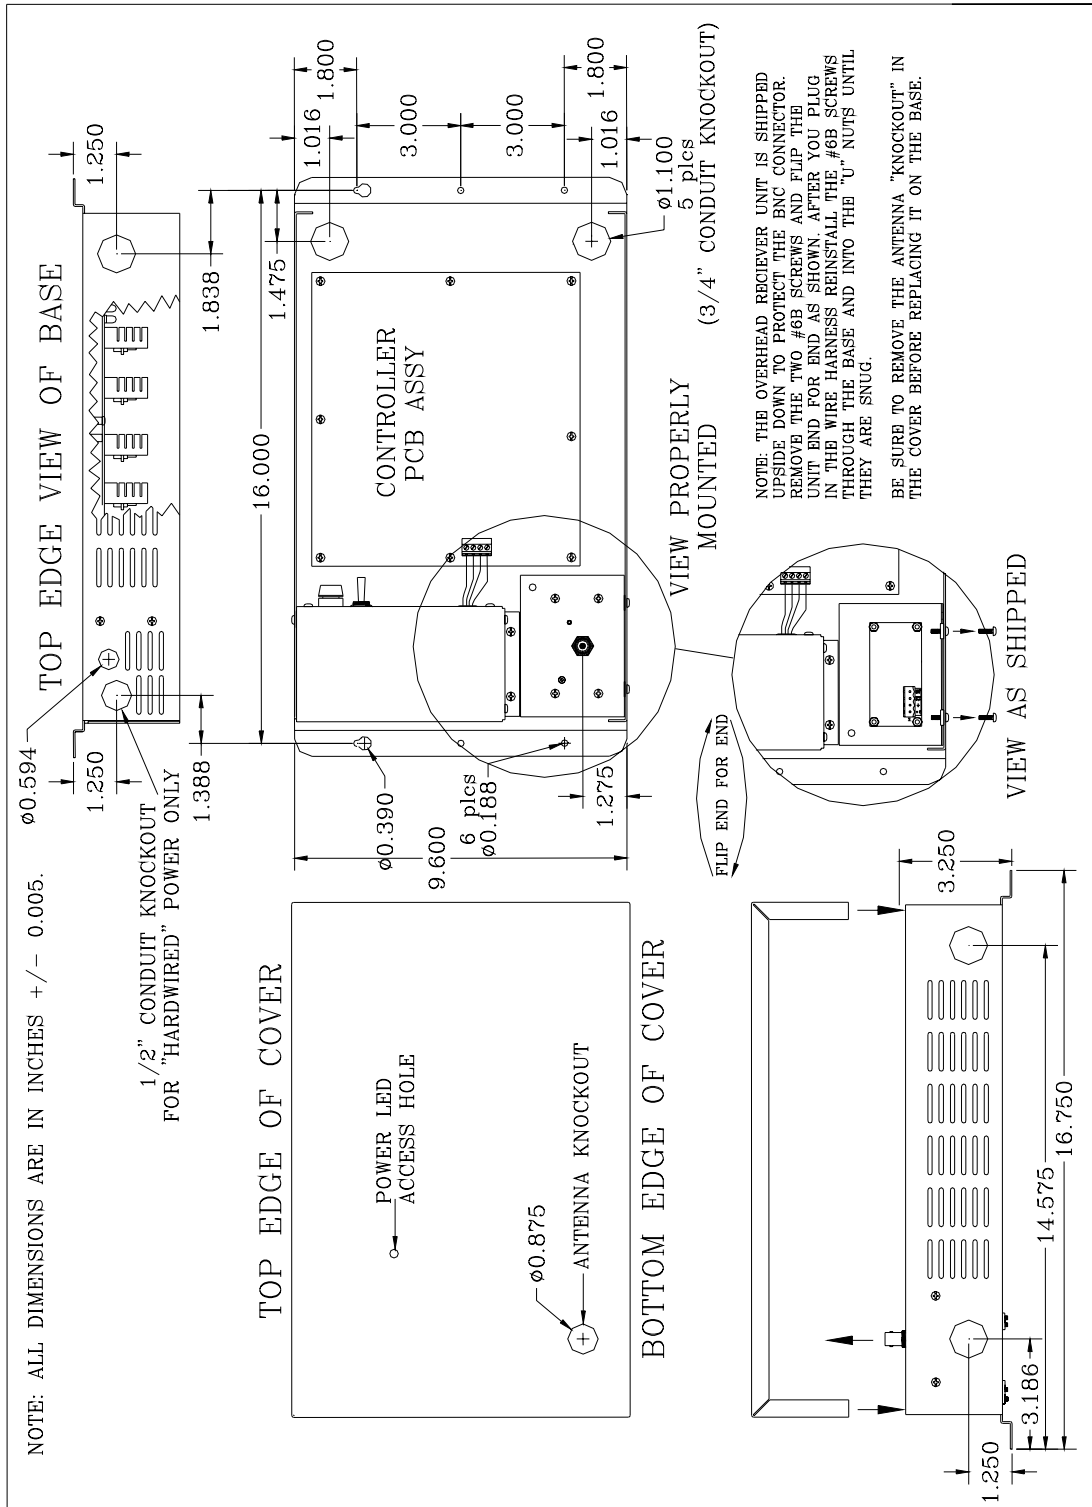

Figure 3.1 Mounting the Controller
To mount the Controller, refer to Figure 3.1 and use the following instructions:
7. Refer to Figure 3.1 and remove the two mounting screws that attach the Receiver to the Controller.